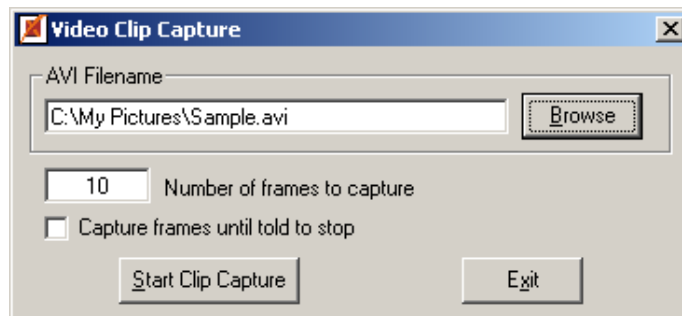

Figure 4.11 Video Clip Capture
1. Go to the File menu and select **Capture AVI**. This opens the Video Clip Capture box (Figure 4.11, on page 28).